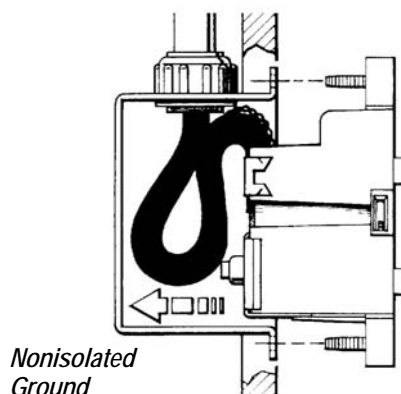

Figure 12
6.1. Nonisolated (Normal) Ground (Figure 12)